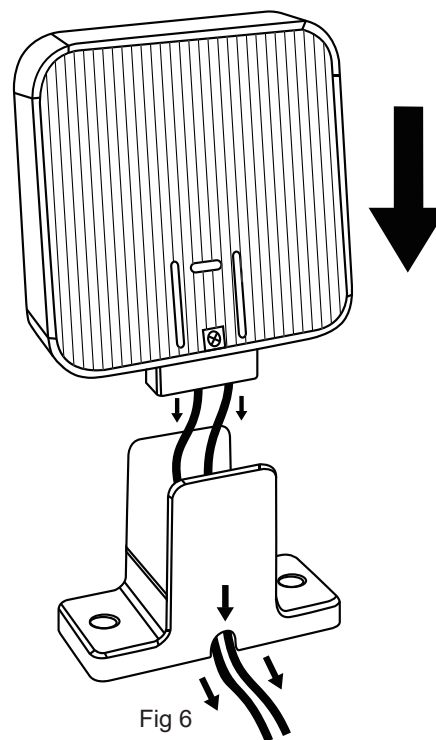

Fig 6
7. Fix the black base and yellow cover with crew the $\varnothing 2.3 \times 8$, run the cables coming from the black base through the holder's hole Fig 6.